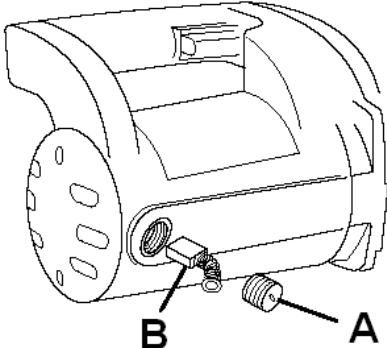

Fig 11
- remove the brush covers (A, Fig 11).